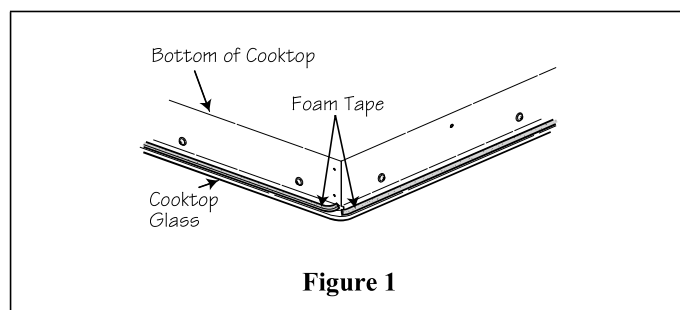

Figure 1
5. Apply the included cushion tape around the outer edge of the glass on all four sides. Do not overlap the tape. See Figure 1.